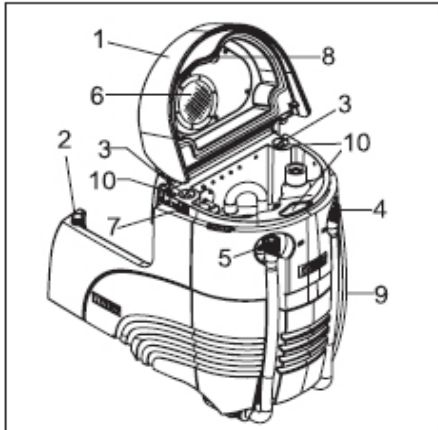

Figure 12 - Dirty Water Recovery and Fresh Water Solution Tanks
- Empty dirty water in recovery tank via drain hose (Figure 12/5) and rinse tank clean.
- Check intake filter (Figure 12/6) and clean if required via water hose by opening (Figure 12/8)
Refer to Figure 12 for items in the procedure:
Do not open the maintenance cap (Figure 12/2) when solution tank is filled.